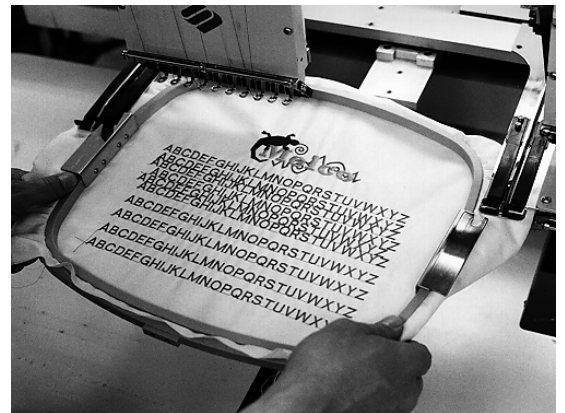

Figure 3-10
2. Insert the hoop frames by sliding the side brackets underneath the spring clips on the support arms. The bracket with the open-ended slot goes on the right side (refer to Figure 3-10). Make certain that the slot engages with the pin in the support arm, and that the brackets are fully seated beneath the spring clips.